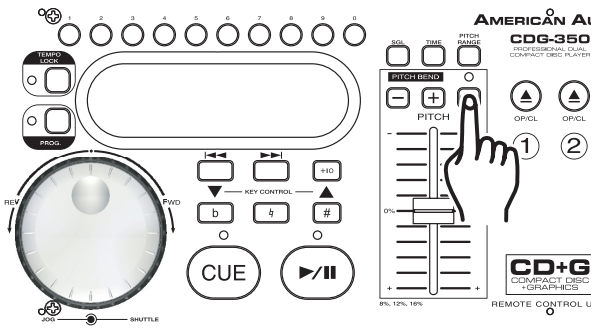

Figure 10
**Using the Pitch Slider Percentage Selector (6):** You may choose a pitch operating range at any time. To change the operating range be sure the pitch function is turned on, see figure 10. The pitch percentage can be changed between +/-8%, +/-12%, and +/-16%. 8% will allow the least amount of pitch manipulation and 16% will allow the most amount of pitch manipulation. To adjust the different values, press the **PITCH ON/OFF BUTTON (10)** and Tap on the **% BUTTON (6)** until your desired value is reached.